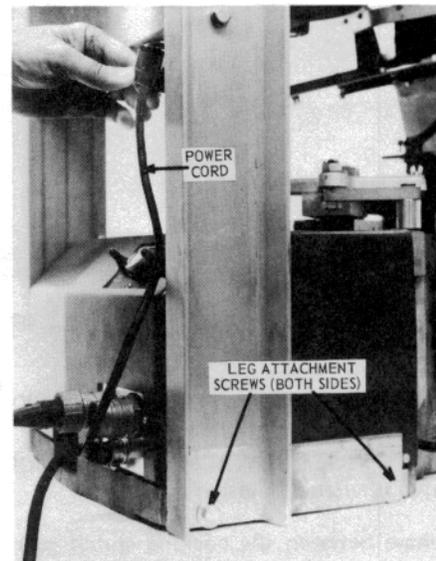
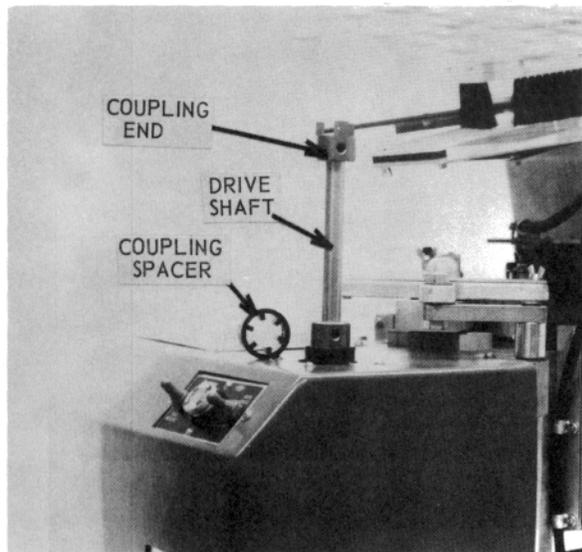

Figure 66 – Power Cord and Leg Attachment Screws
Figure 67 – Drive Shaft and Coupling Spacers
- 6.1.2 Detach the power cord at the magazine gear box by turning it counterclockwise and pulling it out (see Figure 66).
- 6.1.3 Loosen the four screws that hold the magazine support legs to the base (see Figure 66). Pull up on both legs and remove the magazine assembly. Be careful not to lose the drive shaft and two molded rubber coupling spacers that fit in the coupling ends (see Figure 67).